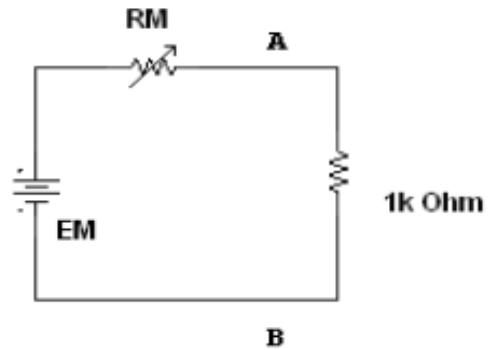

Figure 7b
4. Connect the circuit as shown in Figure 7b. EM and RM are the values computed in step 3.
5. Repeat step 2-b for the circuit in Figure 7b.